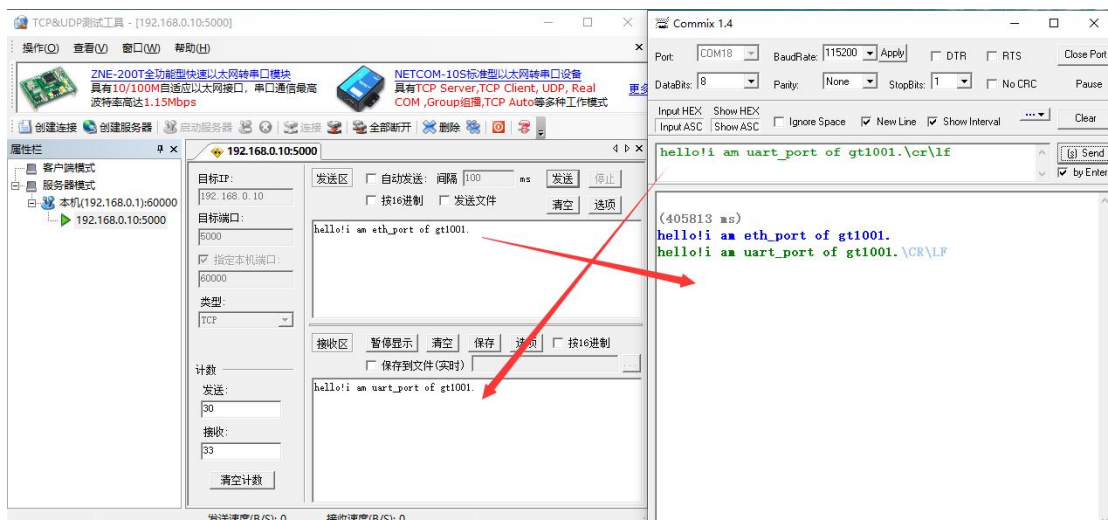

Figure 5-8 Serial port to network data transmission interface
(6) Serial port to network data flow transmission test: PC BB serial port-> GT1001 serial port-> GT1001 Ethernet port-> Computer AA network. Input the data in the sending area of the computer BB, and then click Send to receive the corresponding data on the computer BB. As shown in Figure 5-8.